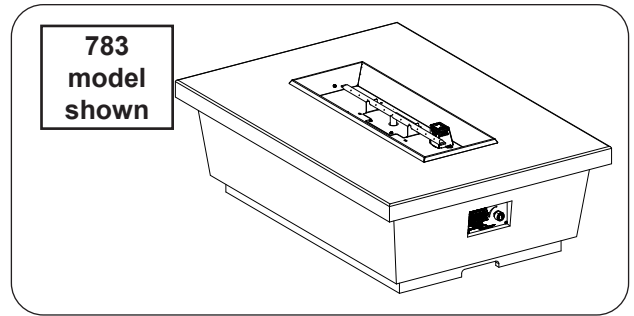

Fig. 24-1 Place unit
1. **Carefully** place the base in an appropriate location (see Fig. 24-1, and refer back to the LOCATION section if needed).